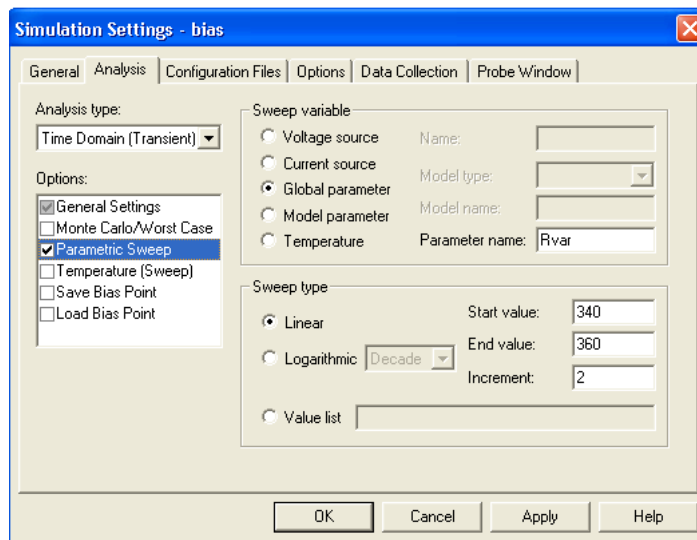

Figure A-3.
- Next we will set up the analysis (See Figure A-3 on the following page). Create a simulation.